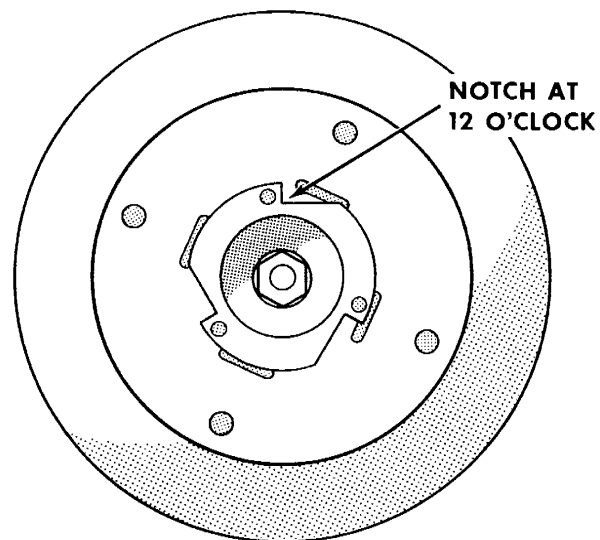

Figure 17
1. Rotate drum support bracket with one notch at the 12 o'clock position Figure 17.